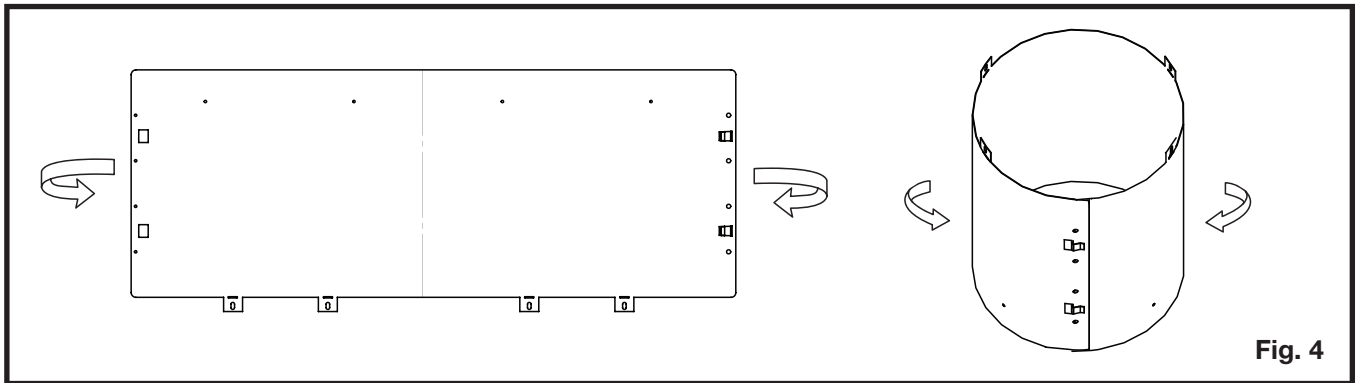

Fig. 4
1. Roll the vent sleeve as shown and ensure to clip the ends together (**Figure 4**).